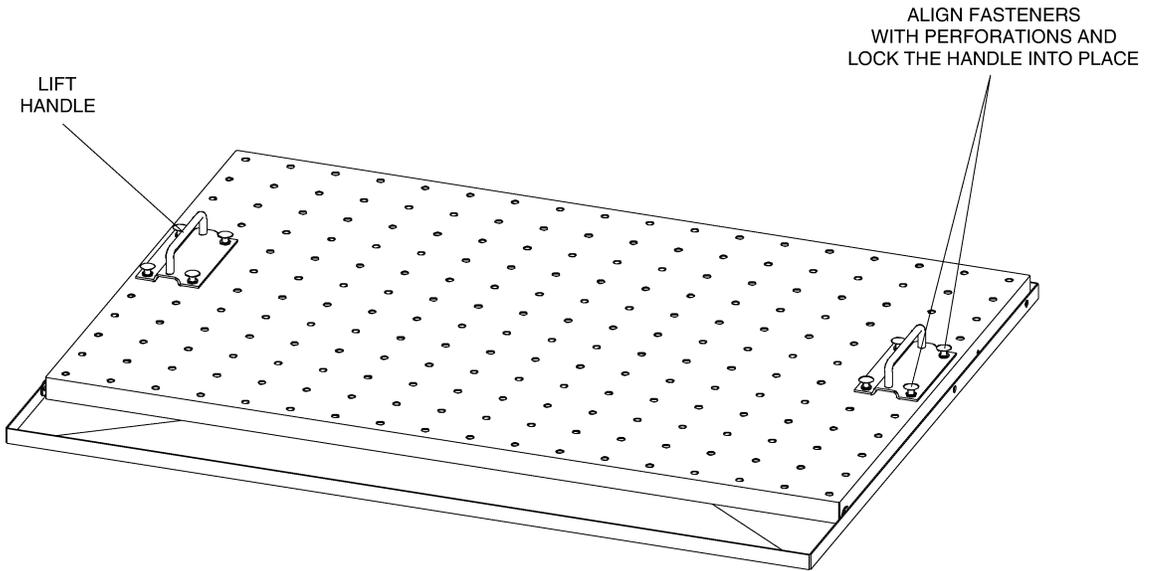

Figure 1-12. Fastening lift handles to a panel.
- To help you lift and tilt the panels, lift handles have been supplied with your trainer kit. To fasten a lift handle to a panel, align the fasteners of the handle base plate with the panel perforations, then lock the handle into place with the fasteners, as shown in Figure 1-12.